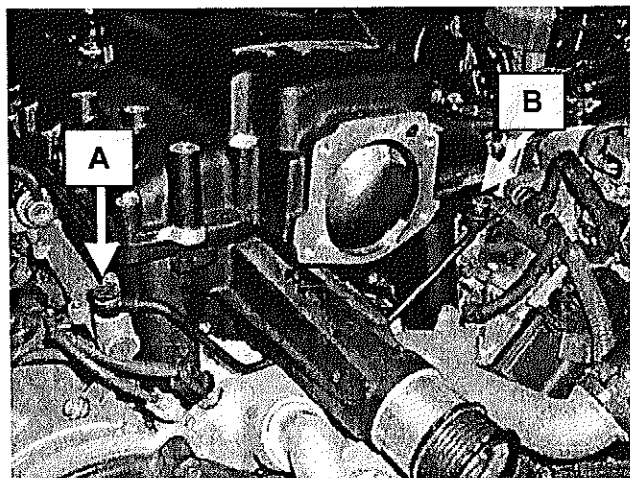

Figure 14
21. Remove the passenger's side fuel crossover tube fitting from the front of the engine (Figure 14, Arrow A).
22. Loosen the driver's side fuel crossover tube fitting (Figure 14, Arrow B) and gently pull the driver's side fuel tube away from supercharger. Completely remove the fitting when it is clear of the supercharger.